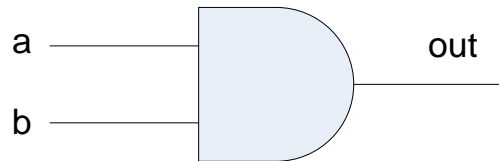

Figure 2
**In this exercise you shall simulate an AND gate (figure 2).** Consider the code in listing. This code declares a single module, which you can think of as a class. The module's name is *and\_gate*, which is descriptive, as we want to simulate an AND gate.